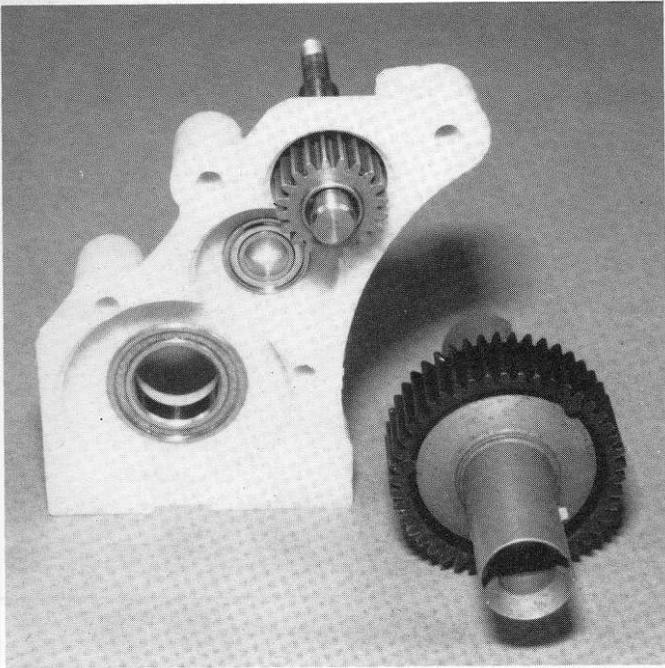

Fig. 61
□ **Figs. 61 & 62** Now take the diff assembly and insert the right hand hub, which is the one that has the bolt HEAD in it, into the #6503 bearing.